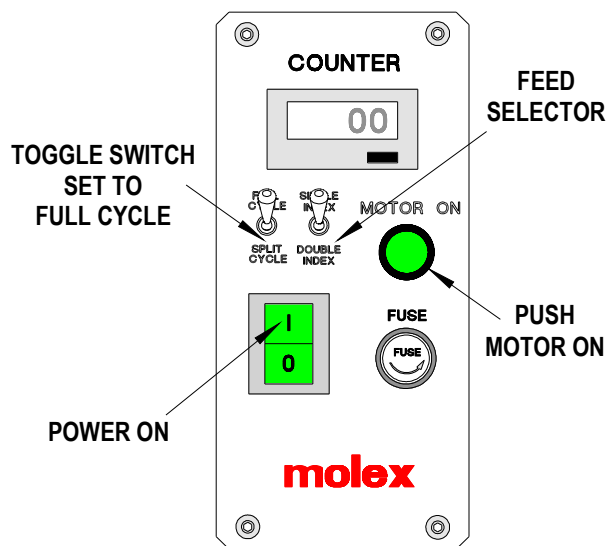

Figure 3-5
Note: When using the 64016-2000 Crimp Module, set the feed selector on the control panel to “SINGLE” or “DOUBLE”, depending on the spacing of the taped terminals. See Figure 3-5.
1. Set the toggle switch on the control panel to "Full Cycle". See Figure 3-5.
The split cycle is used only for closed barrel terminals, and helps to locate the terminal before crimping the wire. The ram will close partially to assist in locating the terminal for the termination. With the terminal located the wire can be placed into the terminal and terminated. To setup the machine for split cycle push the toggle switch on the control panel to "Split Cycle". See Figure 3-5.